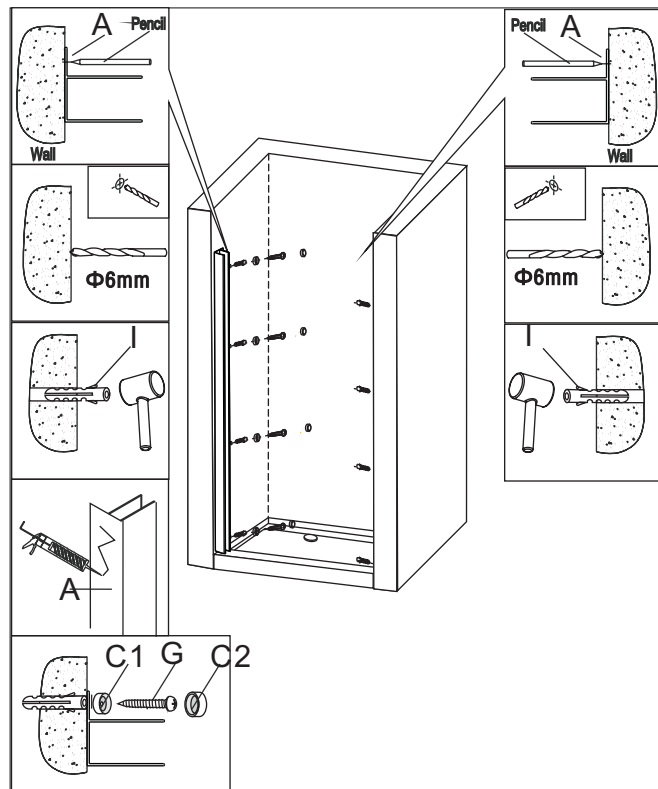

Fig.4
4a. Taking care not to move the door, use the pre-drilled holes in the wall profiles (A) as a template and mark the hole positions on the wall with a pencil. See **Fig.4**.
4c. Apply silicone sealant to the back of one of the wall profiles (A) and secure it to the wall where the door hinge will be located using screws ST4x30mm (G) and screw cap washer (C1). Cover them with screw cap (C2) as per **Fig.4**.